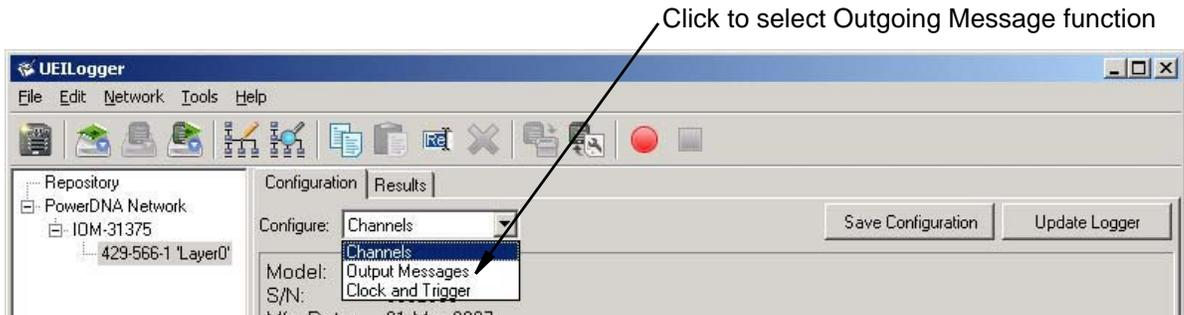

Figure 2-49 429-566 Outgoing Message Configuration Screen
2.13.1 User Interface The drop-down menu in the Configuration tab for the 429-566 layer has an additional item labeled “Output Messages”, which allows you to access a configuration panel for setting up outgoing messages. See **Figure 2-49**.